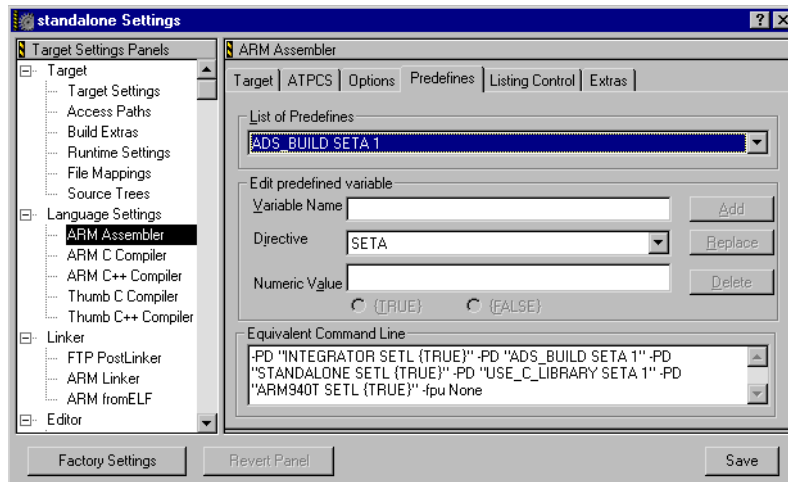

Figure 5-11 Assembler predefineds
- b. Select the **Predefines** tab to set defines for the assembler (see Figure 5-11).